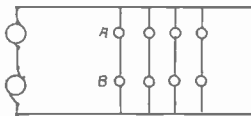
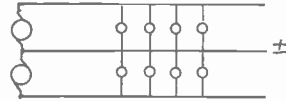
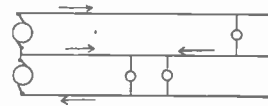

FIG. 2.
FIG. 3.
FIG. 4.
(B) placed as shown. It is plain that they may be connected in series as in Fig. 2, which does away with two wires (C) and (D); but, in case one lamp burns out or is turned off the other goes out also. For this reason a third wire (E), Fig. 3, is extended from the middle point of the two
and positive as to the other outside wire. In Fig. 3 the system is balanced, that is, there are as many lamps on one side of the neutral as upon the other. If, however, as in Fig. 4, the load is not equally dis-